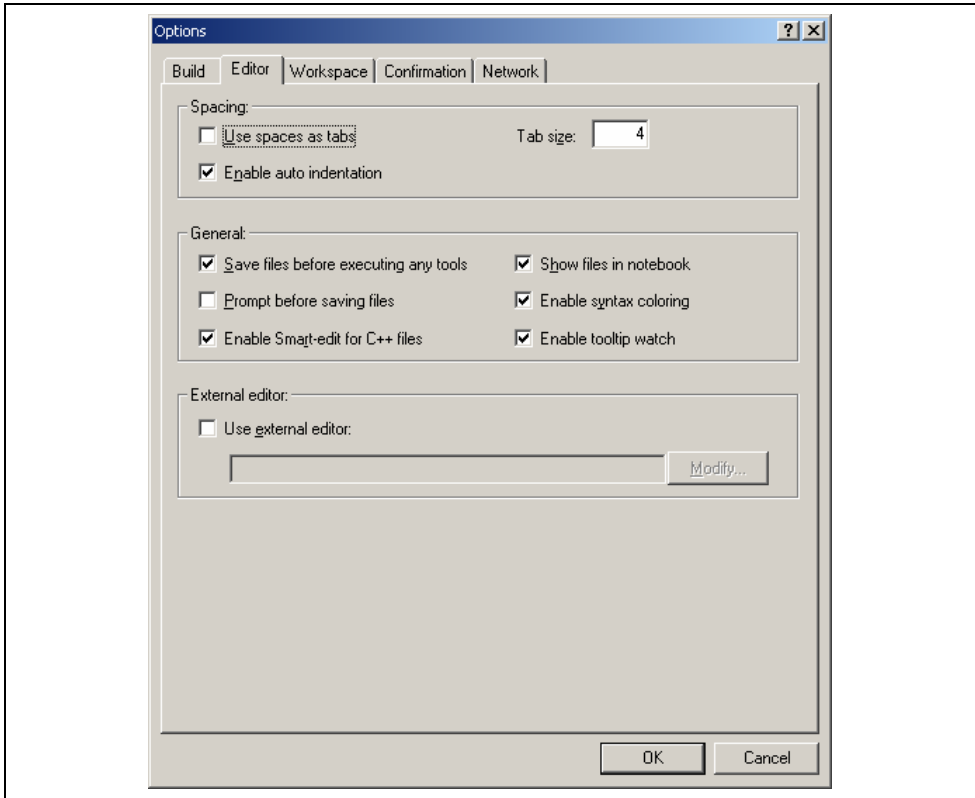

Figure 4.7: Options Dialog Editor Tab
1. Select [**Tools->Options...**]. The “Options” dialog will be displayed. Select the “Editor” tab (figure 4.7)).
1. Select [**Tools->Options...**]. The “Options” dialog will be displayed. Select the “Editor” tab (figure 4.7).
1. Select [**Tools->Options...**]. The "Options" dialog will be displayed. Select the "Editor" tab (figure 4.7).
1. Select [Tools->Options...]. The “Options” dialog will be displayed. Select the “Editor” tab (figure 4.7).